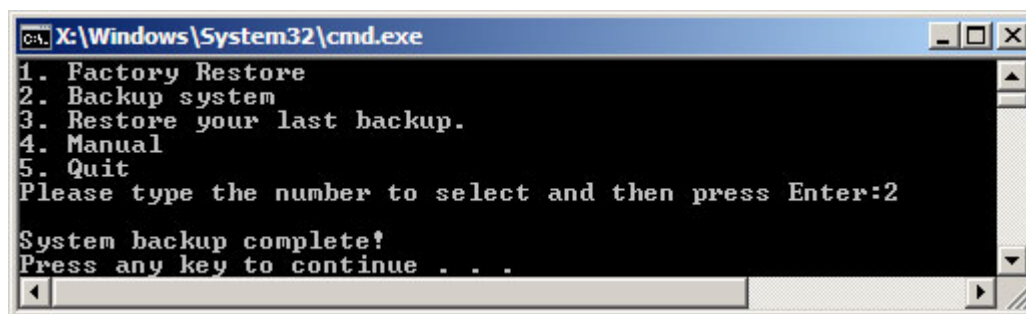

Figure B-39: System Backup Complete Window
Step 3: The screen shown in **Figure B-39** appears when system backup is complete.